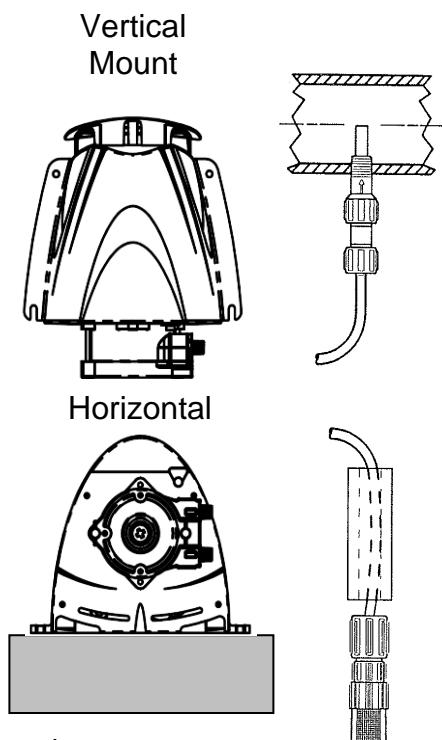

Figure 2: Injector Placement
- 1) The pump can be installed either vertically or horizontally (See Figure 2). Make sure to secure the pump on a flat level surface that will support 50-lbs (22kg) and secure with four .25-in (6mm) screws in the holes provided. The guard snaps into the back of the pump via three tangs -- see Figure 1. The pump should be mounted with no less than 1.75-in (44mm) of clearance around the venting on both the front and the rear of the pump. Locate the pump so there is direct access to the power cord plug.
- 3) Relieve the system pressure and drain the piping run where the injection fitting is to be installed. See Figure 2 for reference. **The injection fitting must not be installed in a dead end pipe or a deeply recessed tee. It should be installed so as to place the tip at the center of the fluid stream as indicated in Figure 2.** The injection fitting is supplied with .25-in NPT threads. If necessary drill a .44-in (11mm) diameter hole and using care not to tap to deeply, tap for .25-in NPT.